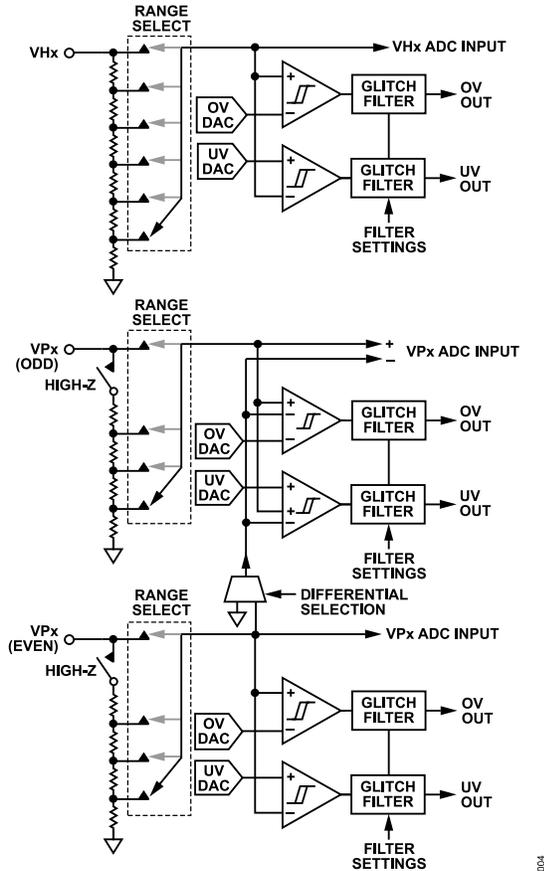

Figure 9. Supply Fault Detectors
The ADM1266 has 17 programmable supply fault detector (SFD) inputs. These dedicated inputs are labeled VHx (VH1 to VH4) and VPx (VP1 to VP13). The ADM1266 is also capable of making precision differential voltage measurements on the VPx pins (the exception is that VP13 cannot be used for differential measurements). One differential measurement requires two VPx pins. The odd numbered VPx pin (for example, VP1) must always be the greater voltage. The next corresponding even number VPx pin (for example, VP2) is used for that differential measurement. Both differential VPx pins must have the same input range selections. The SFD for the odd numbered VPx pin responds to the differential measurement. Figure 9 shows the arrangement of the pins. Each SFD input can be configured to detect an undervoltage (UV) fault (the input voltage drops below a preprogrammed value), or an overvoltage (OV) fault (the input voltage rises above a preprogrammed value). A programmable (up to 100 μs) glitch filter allows the user to remove any spurious transitions such as supply bounce at turn on.
The UV and OV comparators shown in Figure 9 are always monitoring and sensing the voltage on VHx and VPx. To avoid chatter (multiple transitions when the input is very close to the set threshold level), these comparators have digitally programmable hysteresis. The hysteresis is added after a supply voltage goes out of tolerance. Therefore, the user can program the amount above the UV threshold to which the input must rise before a UV fault is deasserted. Similarly, the user can program the amount below
The ADM1266 has an on-board, 12-bit accurate ADC for voltage readback over the PMBus using the READ_VOUT command (Register 0x8B). Inputs to the ADC consist of the 17 SFD inputs (VHx and VPx pins). The inputs to the ADC come from the back of the input attenuators on the VPx and VHx pins, as shown in Figure 9.